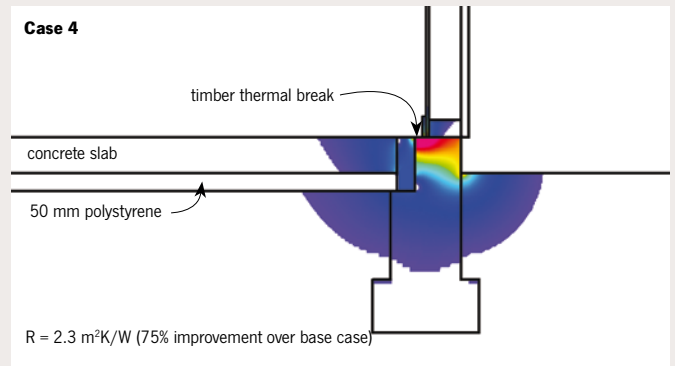

Figure 4: 50 mm polystyrene plus 45 mm wide timber thermal break at the inner edge of the slab.
- a thermal break where the outer edge of the slab joins the perimeter footing (see Figure 4). Details of this were given in *Build* 100 June/July 2007, pages 32–33 and 103–105